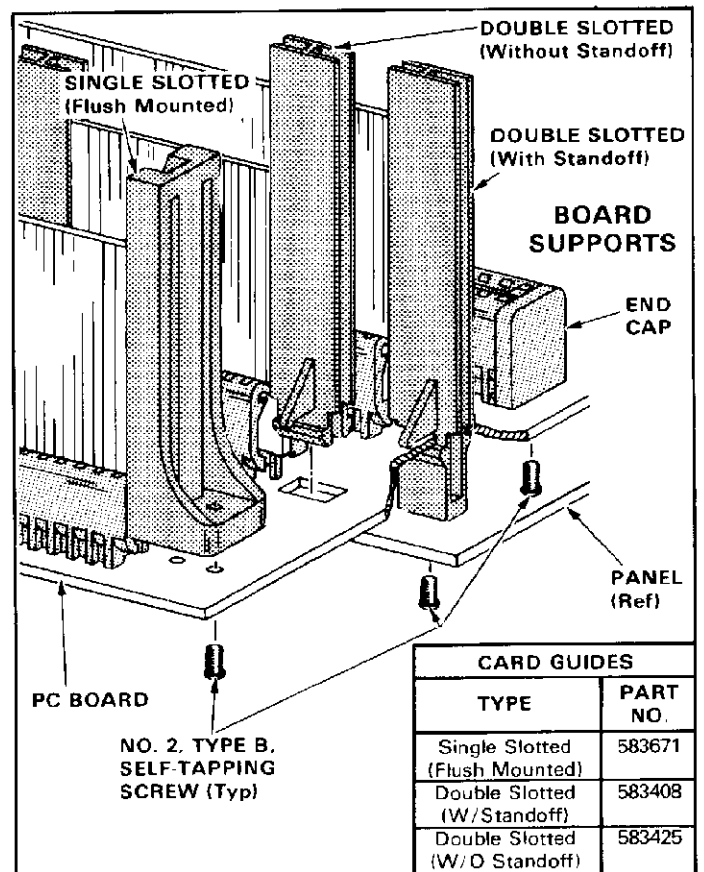

Fig. 3
B. Board Supports (Figure 3)
There are three types of card guides which are listed in the chart in Figure 3. The method of installing each type is indicated in Figure 3. Read the card guide instruction sheet (IS 7506) for the mounting dimensions, and overall dimensional requirements for the pc boards.